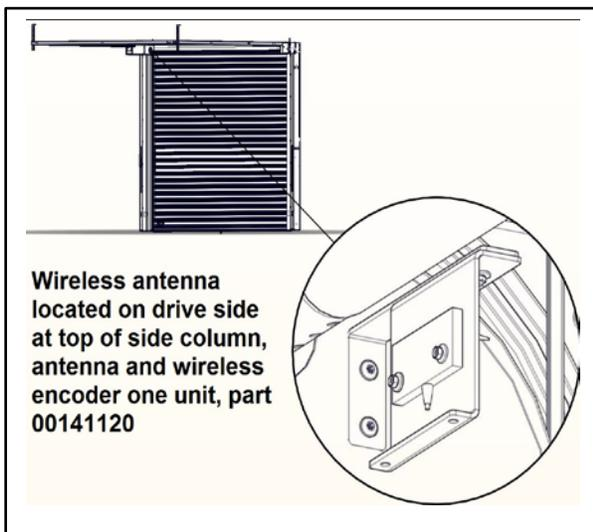

Figure 83
Located at the top of the left or right side column is the Spiral door wireless antenna bracket assembly. (See figure 83.)
10. Mount the new antenna to the bracket, the tan cable MUST exit towards the floor from the antenna (as shown in figure 83).